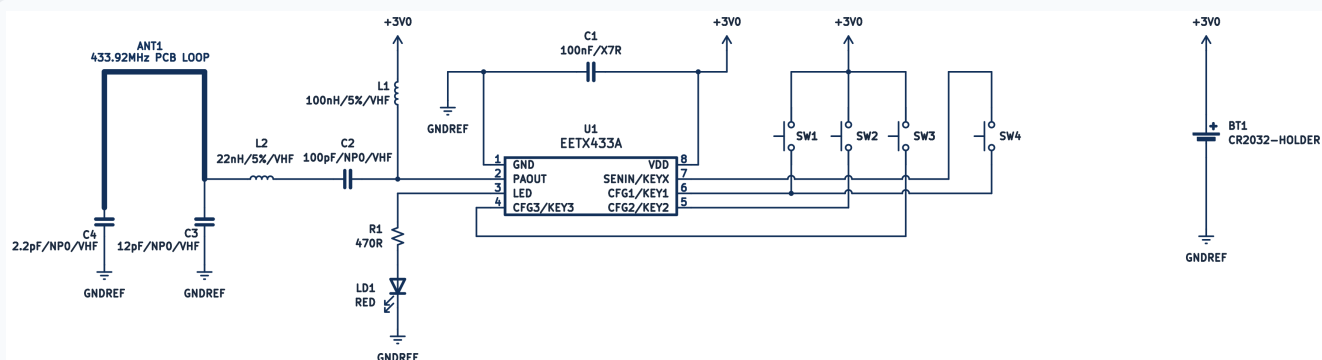

Figure 3: 4-button remote — 3 direct + 1 through the KEYx matrix
- **Buttons:** for 2–3 keys, wire each button directly to its CFG pin. For 4–6 keys, follow the KEYx matrix schematic (Figures 3 and 4). Use good-quality tactile buttons for durability.